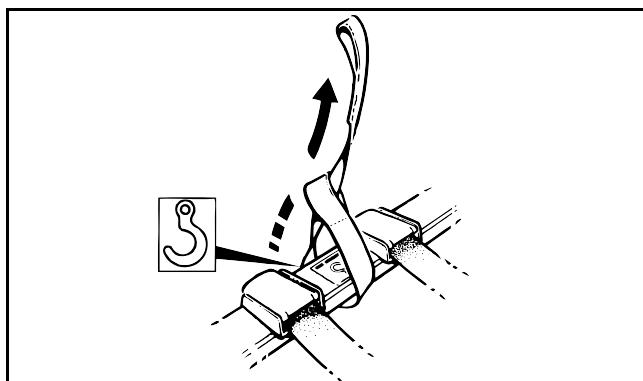

Fig. 56
**CAUTION:** If they are not already attached, fix the four suspension straps in the positions indicated by labels on the side sections of the frame (see Fig. 56).